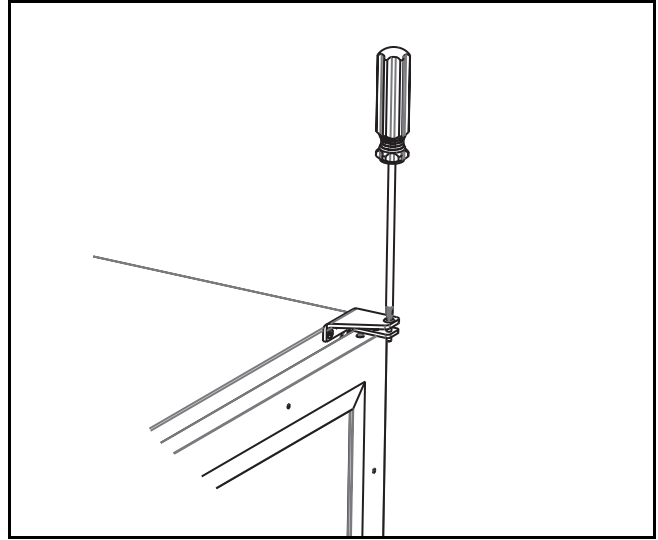

Figure 15
7. Remove the top hinge pivot pin with a Phillips screwdriver and lift door off bottom hinge pin (**Figure 15**). Be careful not to lose the door closer insert sets. Save pivot pin for use later.